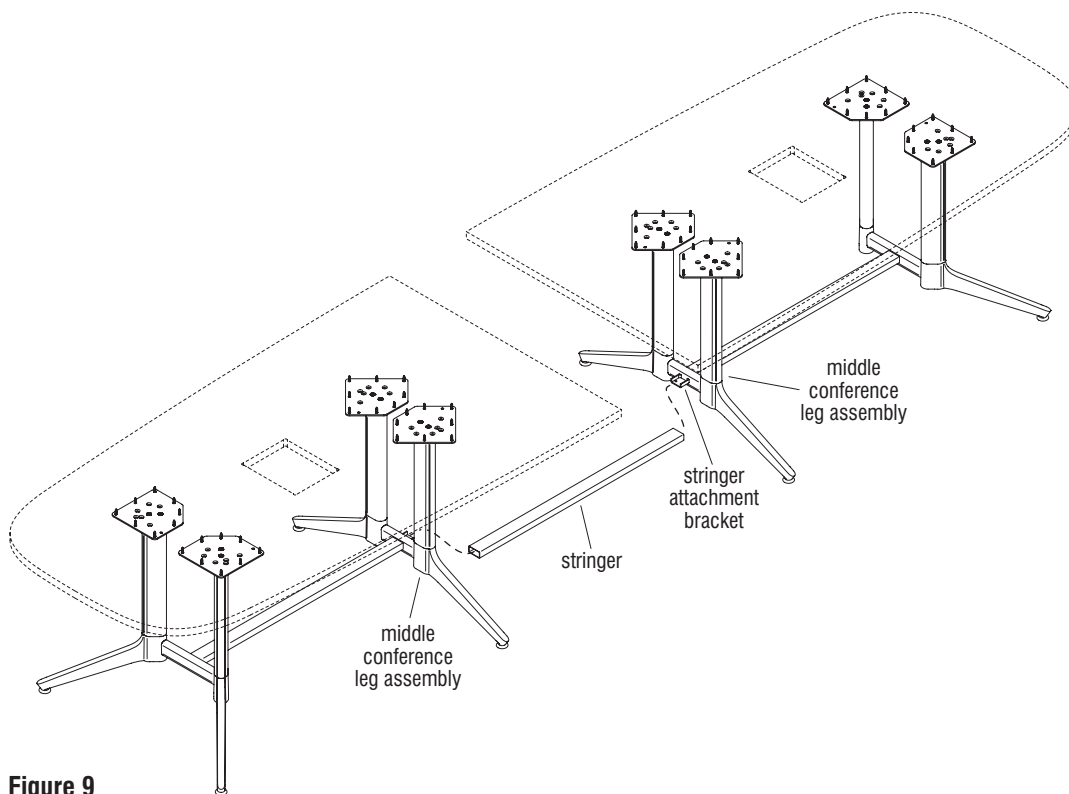

Figure 9
4. With the assistance of a second person if needed, carefully turn each table half with base assembly to the upright position (Figure 9).
5. The final stringer bridges two table halves between two conference leg assemblies. Insert the stringer onto the stringer attachment bracket on one middle conference leg assembly, making sure the mounting holes on the stringer are facing down. Then, move the opposite table half toward the table with the stringer and insert the stringer attachment bracket into the open end of the stringer (Figure 9 & Detail I).